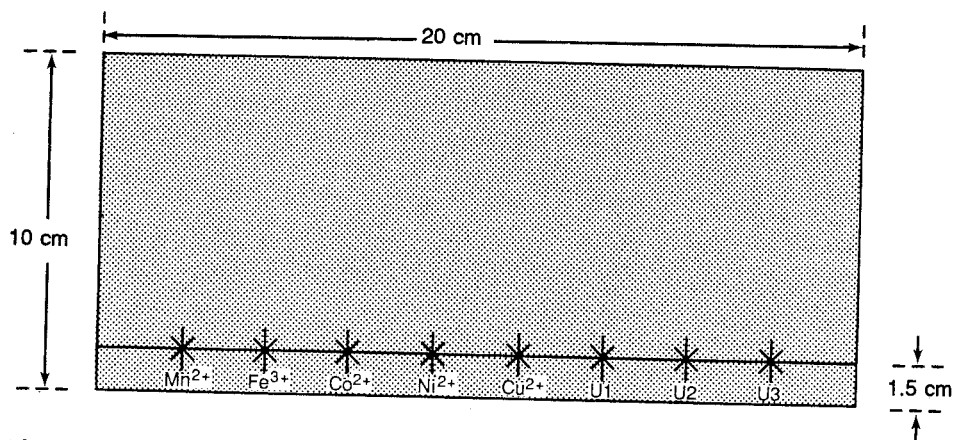

Figure 4.5 Labeling the stationary phase (the chromatographic paper) for the chromatogram.
4. **Stationary Phase.** Obtain one piece of chromatographic paper (approximately 10 × 20 cm). Handle the paper only along its top 20-cm edge (by your designation) and lay it flat on a clean piece of paper, *not* directly on the lab bench. Draw a *pencil* line 1.5 cm from the *bottom* 20-cm edge of the paper (Figure 4.5). Starting 2 cm from the 10-cm edge and along the 1.5-cm line, make eight X's with a 2-cm separation. Use a pencil to label each X *below* the 1.5-cm line with the five cations being investigated and unknowns U1, U2, and U3.